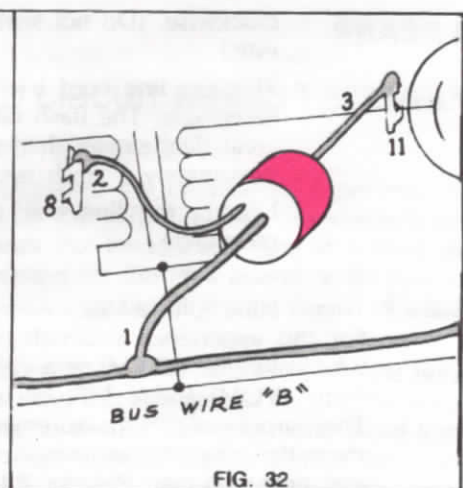

FIG. 32
7. Carefully bend the leads of the trigger transformer T1 (refer to Figure 32) and then: